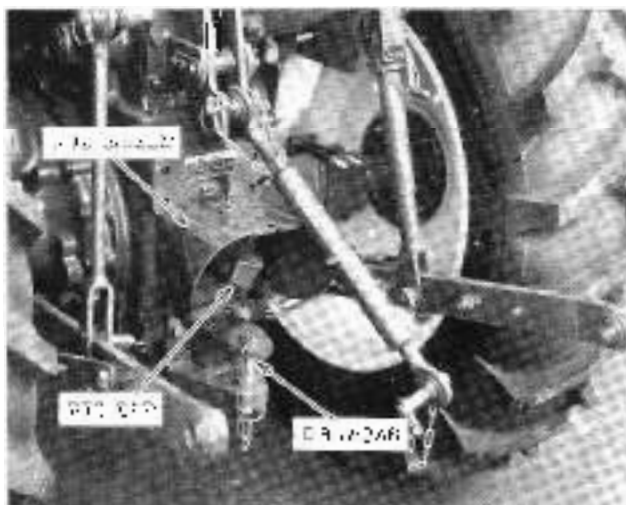

Figure 12 PTO Shield and Cap
The tractor and PTO are mated through a set shown in Figure 12. For manufacturer PTO and equipment operation, as described in *Owner's Manual*, "POWER TAKE-OFF (PTO) ATTACH".
The PTO shield (see Figure 12) is a standard component. The shield must always be used with both hands and pulled up fully at all times.
- Disengage the PTO with the PTO clutch lever. (Figure 12) to the cap to the shield, using a the implement.
3. With the tractor at a normal, forward, forward speed, shift weight forward to fully engage the PTO by moving the PTO control lever (Figure 12) to the desired operating range.